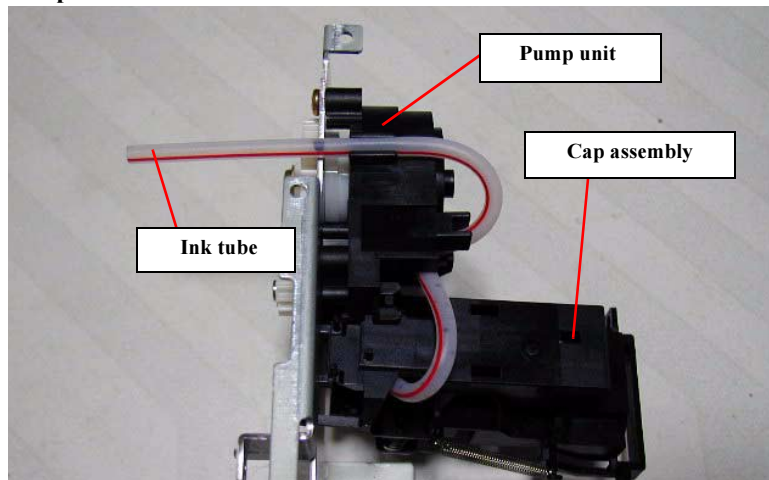

Figure 4-38. Ink tube placing position
4. Remove the Plain washer and then remove the Combination gear 11.6, 36.8 carefully. Refer to Figure 4-38.